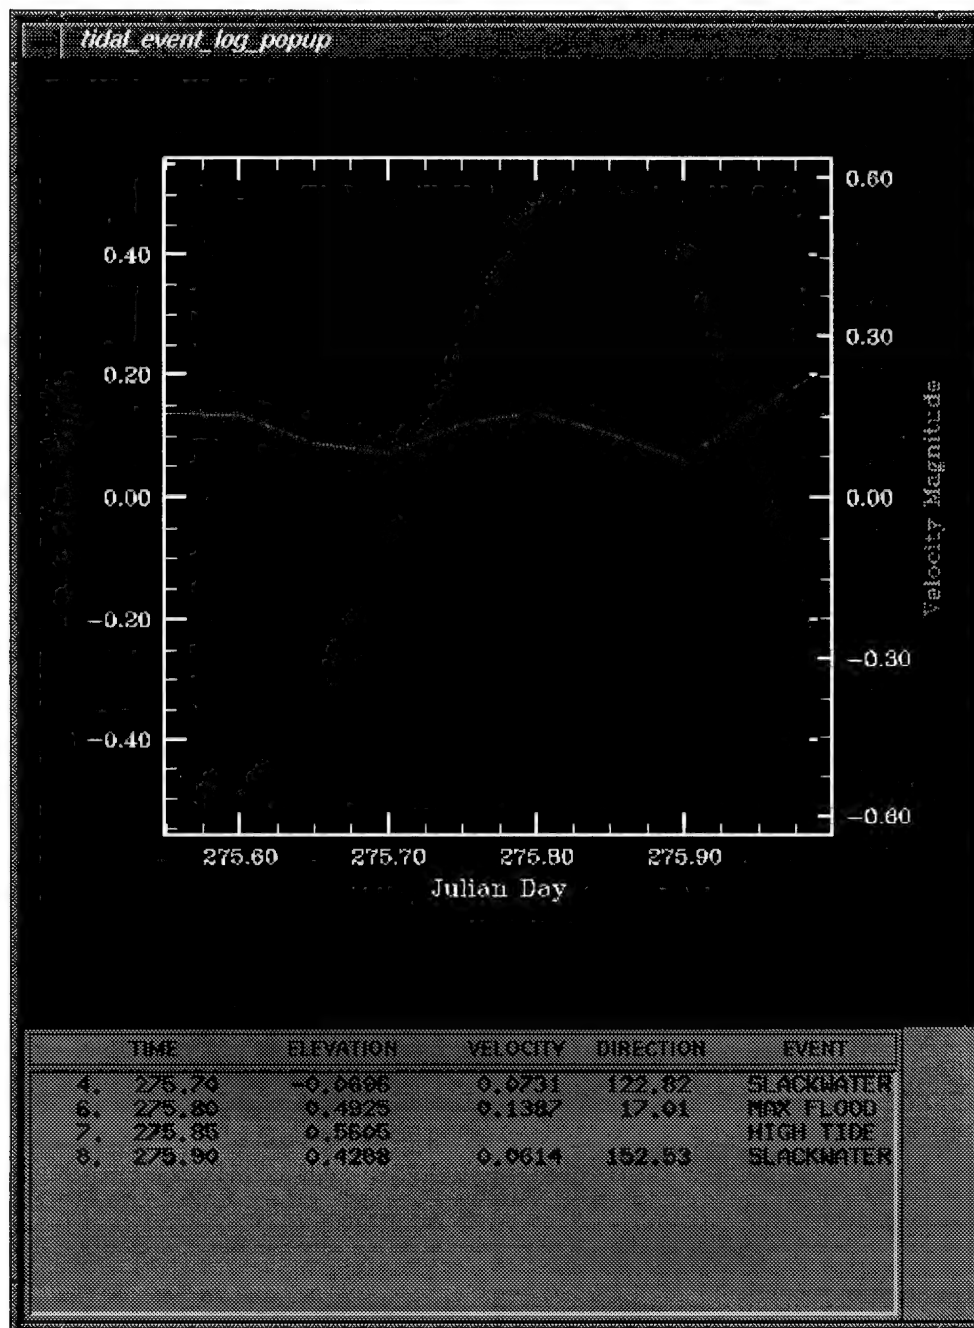

Figure 34 – Tidal event log pop-up window in the Post-Processor
5. This pops up the 'Tidal Event Log' main window (Figure 34). The red line denotes SSH and the green line velocity magnitude. The log in the lower text box of the window has time in Julian day, elevation in meters, velocity in cm/s and direction in degrees.